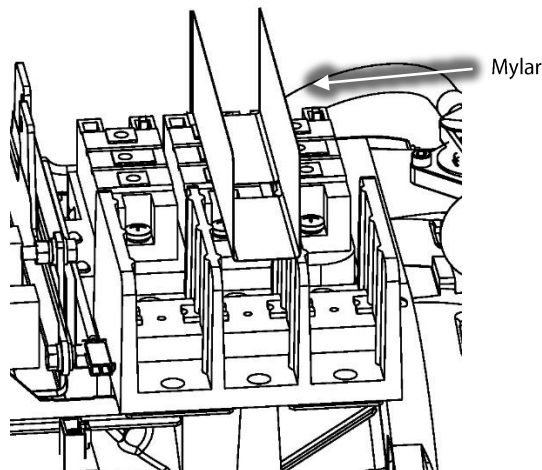

Figure 27 – Main Power Mylar Insertion
21. Reinstall the Mylar in the middle of the Terminal Block. Refer to Figure 27 (Main Power Mylar Insertion).